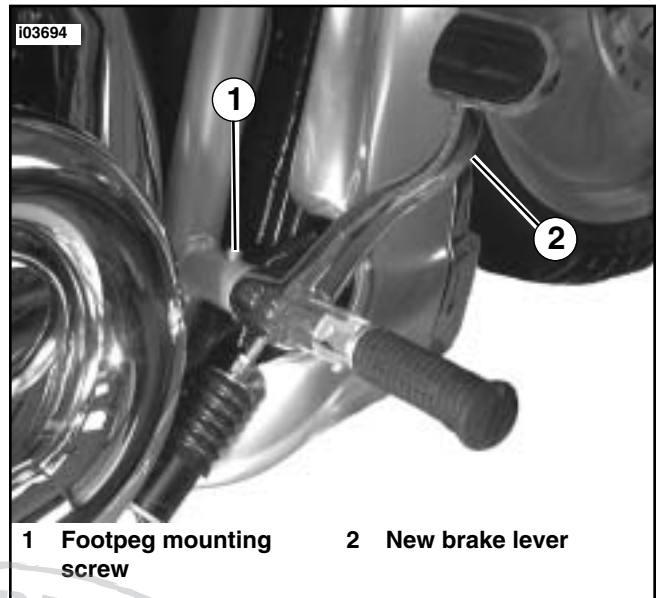

Figure 3. Install New Brake Lever
7. See Figure 3. Slide footpeg through opening in brake lever and frame. Make sure footpeg is oriented so it will fold upward and rearward.